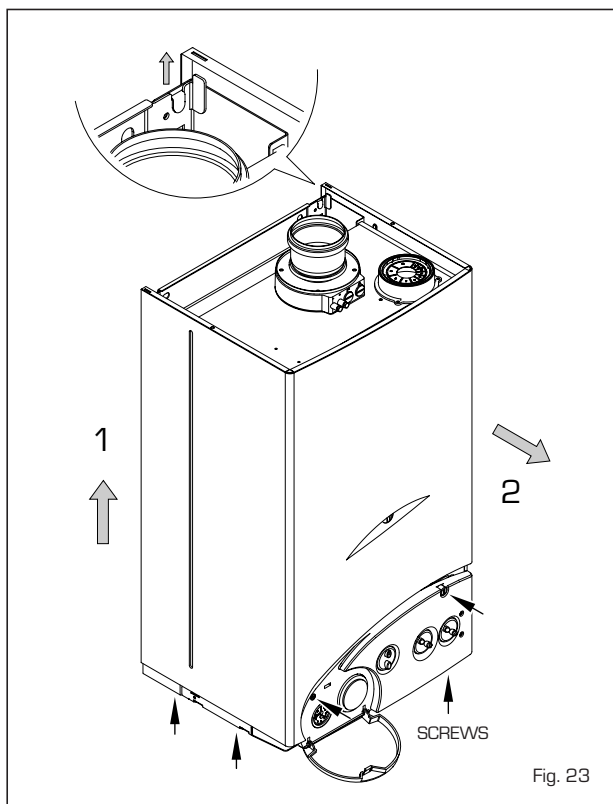

Fig. 23
- Remove the casing as showed in fig. 23.